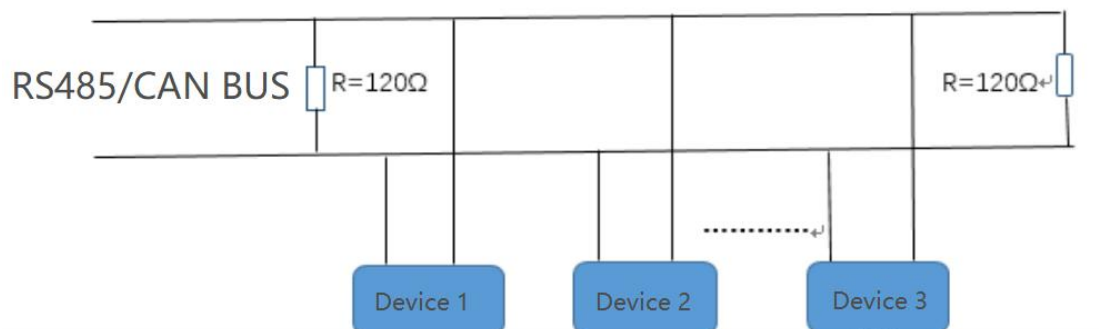

Figure 3-1. Connection Diagram for RS485 and CAN
7. When using RS485 and CAN to connect multiple valves, please refer to the connection diagram shown in **Figure 3-1** below.